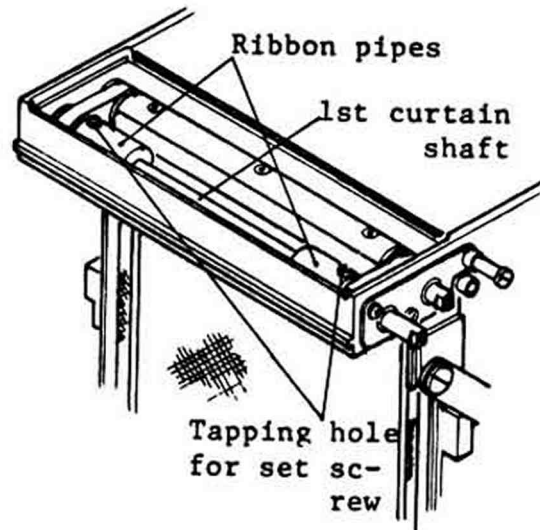

Fig. 21
- 8) Tighten a SLS18172 Set screw to one of the ribbon pipes as shown in Fig. 21.